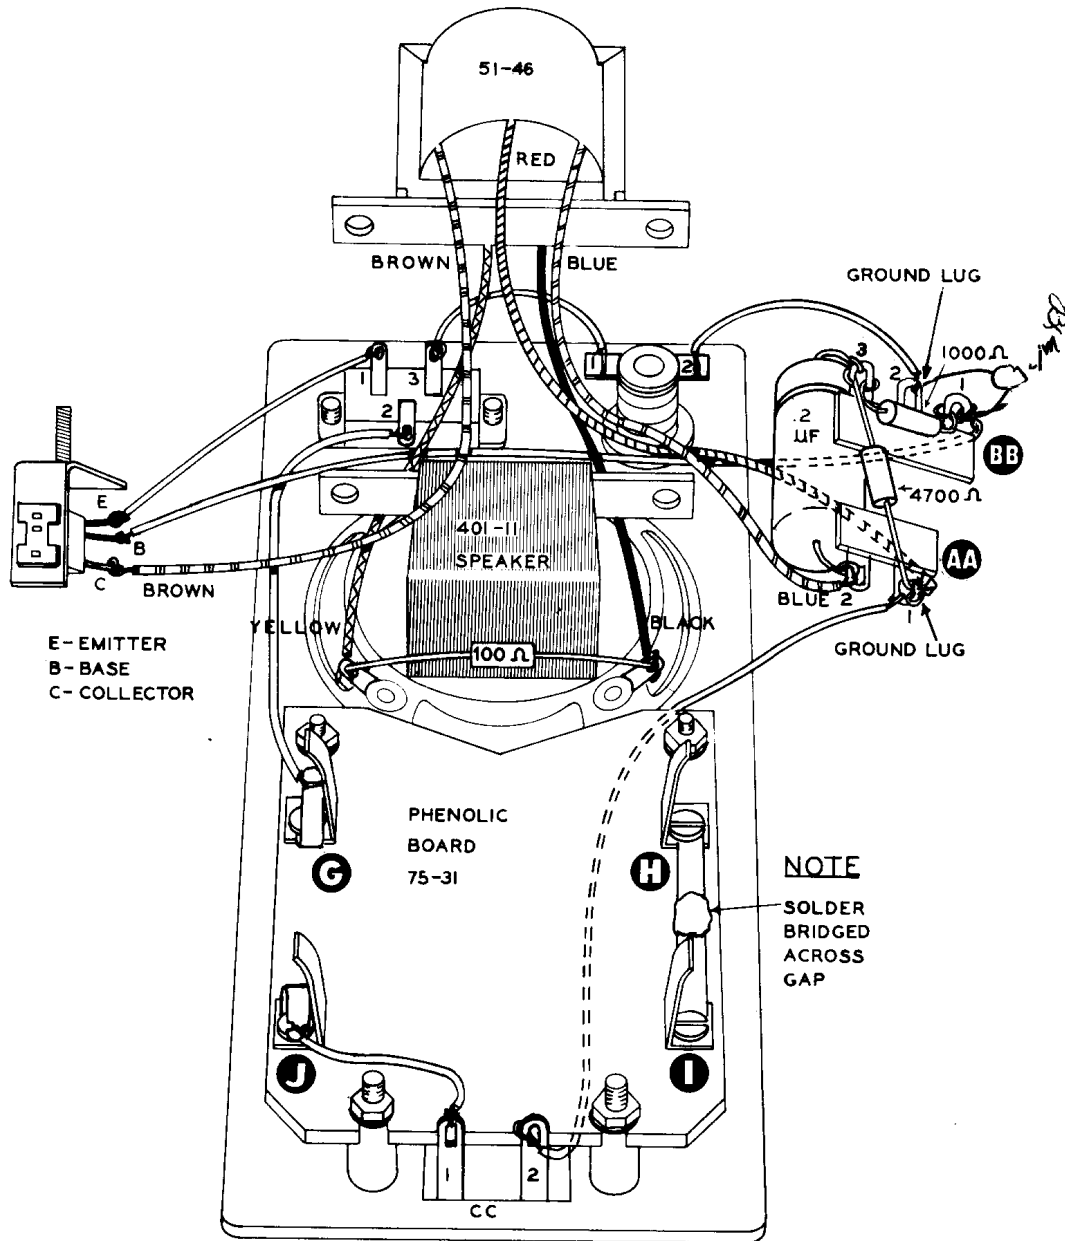

Figure 8
Page 11 - Mark Figure 8 to indicate a .1  $\mu$ fd disc capacitor connected between lugs 1 and 2 of terminal strip BB.
- ( ) Cut a piece of hookup wire 4 1/2" long. Trim 1/4" of the insulation off the ends. Refer to Figure 8, route the lead under the phenolic board and connect to lug 1 on terminal strip AA (NS). Connect the other lead end to lug 2 on terminal strip CC (S-1).
- ( ) Cut a piece of hookup wire 2" long. Trim 1/4" of the insulation off the ends. Connect one end to solder lug J on the phenolic board (S-1). Connect the other end to terminal 1 on the dual screw terminal strip CC (S-1). See Figure 8.
- ( ) Cut a piece of hookup wire 2 1/2" long. Trim the insulation 1/4". Form a small hook at one end of the lead and pinch it tight around the emitter terminal of the transistor socket (S-1). See Figure 8. Connect the other end of the lead to the SPDT switch terminal 1 (S-1).
- ( ) Form the brown lead from the transformer around the L bracket, as shown in Figure 8, and connect it to the transistor collector terminal (S-1).
- ( ) Cut a piece of hookup wire 3 3/4" long. Trim the insulation 1/4". Form a small hook at one end of the lead and pinch it tight around the base terminal of the transistor socket (S-1). Route the lead under the transformer, as shown, and connect to lug 1 on terminal strip BB (NS). Refer to Figure 8.
- ( ) Trim both leads on a 1000  $\Omega$  (brown-black-red) 1/2 watt resistor to 5/8" long. Connect one end to lug 3 on terminal strip BB (NS). Connect the other end to lug 1 on terminal strip BB (NS). *Trim both leads of a .1  $\mu$ f disc cap to 2 lugs 2 NS BB*
- ( ) Trim both leads on a 4700  $\Omega$  (yellow-violet-red) 1/2 watt resistor to 1" long. Connect one end to lug 1 on terminal strip AA (NS). Connect the other end to lug 3 on terminal strip BB (NS).
- ( ) Route the red lead, as shown in Figure 8, from the output transformer to the grounded solder lug 1 on terminal strip AA (S-3).
- ( ) Trim both leads on the .2  $\mu$ f paper capacitor to 3/4" long. Connect one lead to lug 2 on terminal strip AA (NS). (Pull the capacitor up tight to the terminal strips and bend the lead ends around the lugs.) Refer to Figure 8. Connect the other lead to lug 3 on terminal strip BB (S-3).
- ( ) Form a solder bridge across the two flat solder lugs H and I at the one side of the phenolic board, as shown in Figure 8. A 1/2" piece of bare wire could be used, soldered across the gap.